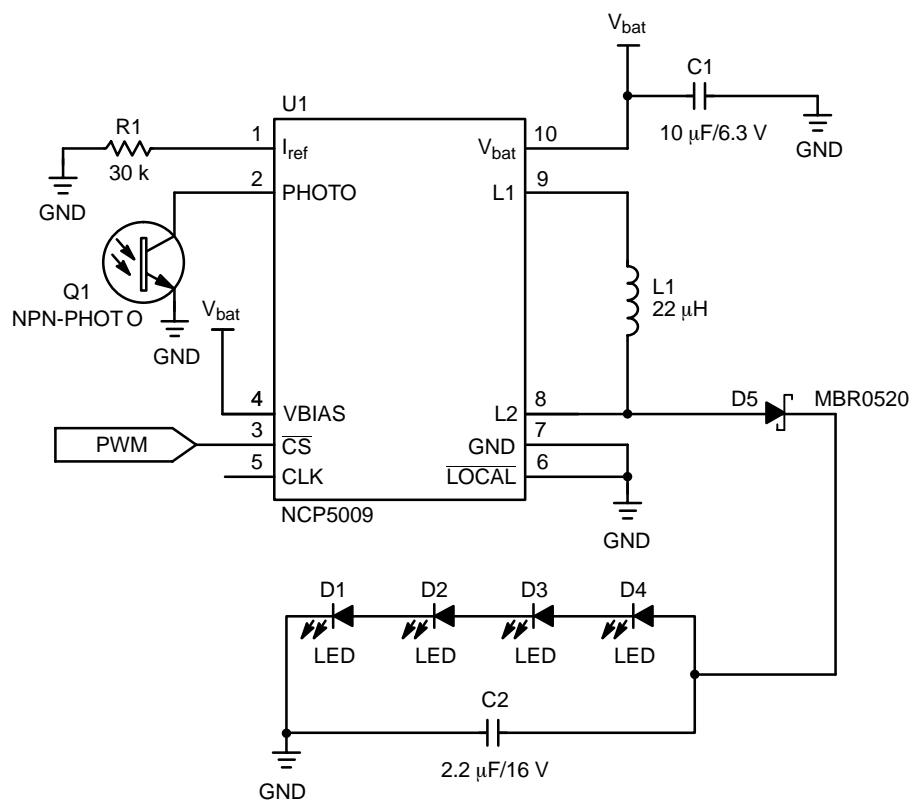

Figure 24. PWM Current Control Mode Operation in LOCAL Mode
- The LEDs brightness can be controlled in LOCAL mode with a PWM on CS pin as depicted in Figure 24.